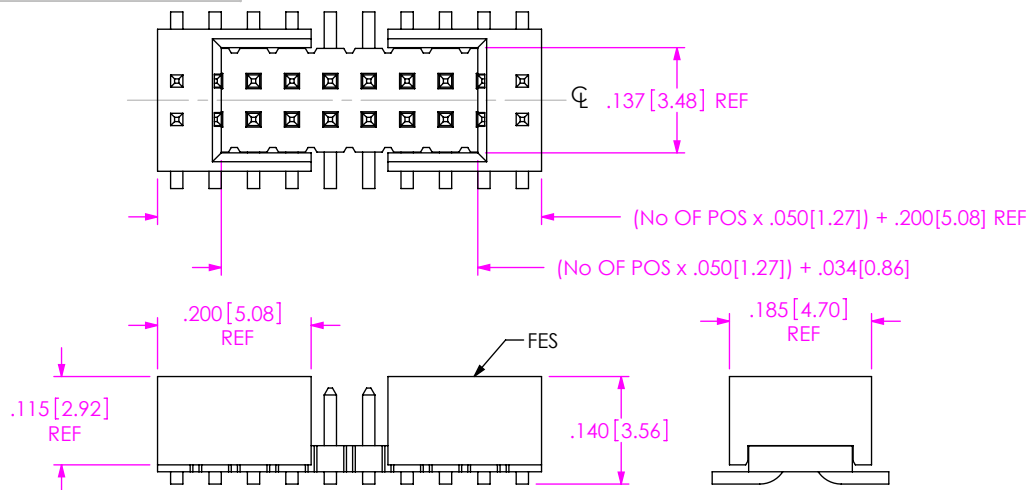

FIG 3
- S: END SHROUDS (SEE FIG 3, SHT 2 & FIG 6 SHT 3) (LEAD STYLE -02 & -03 ONLY) (05 POS MINIMUM, 46 POS MAXIMUM) (NOT AVAILABLE WITH -A OPTION; ORDER -SA FOR ALIGNMENT PIN WITH SHROUD) (SEE NOTES 6 & 7)